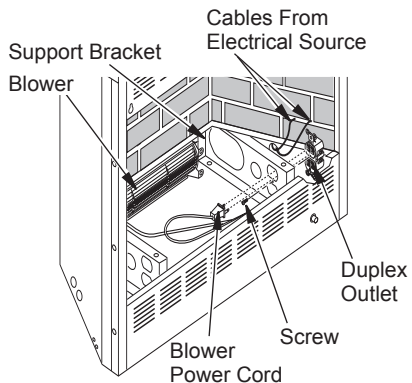

Figure 12 - Routing Blower Accessory Power Cord for Built-In Installation
3. Route wires from electrical box through hole in side of heater and hole in support bracket (see Figure 12).